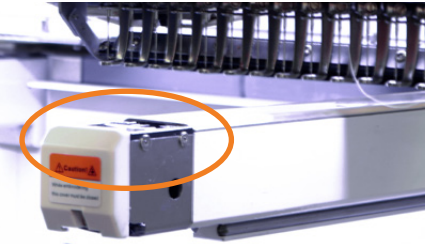

Figure 107
- Remove the needle plate located on top of the sewing arm. Once removed, clean around the trimmer knives with a soft brush or air compressor with a moisture filter or approved compressed air dusters like Dust Off. **See Figure 107.**